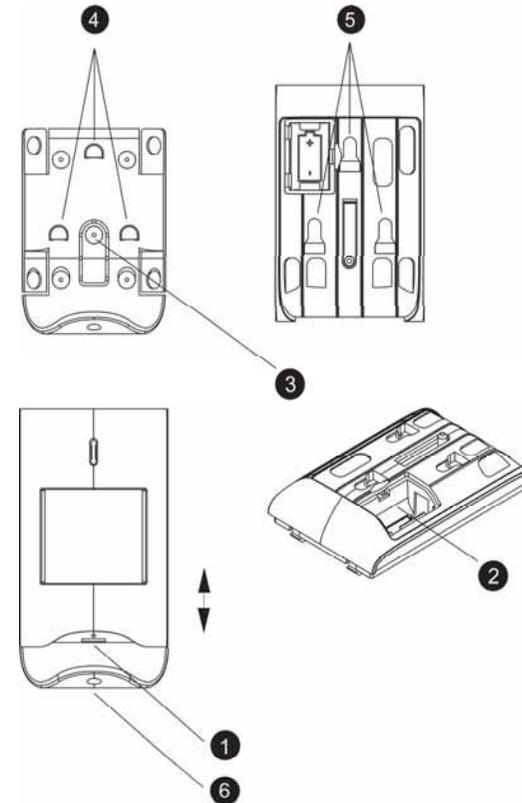

Figure 2: Assembling the EL-4745
2. To use the rear tamper switch, insert a screw into the rear tamper mounting hole located in the center of the bracket (See Figure 2, position 3). When the bracket is removed from the wall, the screw causes the tamper release to break away from the bracket and the rear tamper switch is released
3. Align the pins on the mounting bracket with the slots on the detector's base (See Figure 2, position 4 & 5), attach the EL-4745 to the bracket and slide it down while gently pressing it to fit to its place.
4. Attach the screw provided in the detector kit to the bottom of the mounting bracket (See Figure2, position 6).
Open the battery compartment door on the back cover (see Figure 2, position 2), replace the battery, and close the compartment door. Attach the EL-4745 to the bracket and slide it down while gently pressing it to its place.